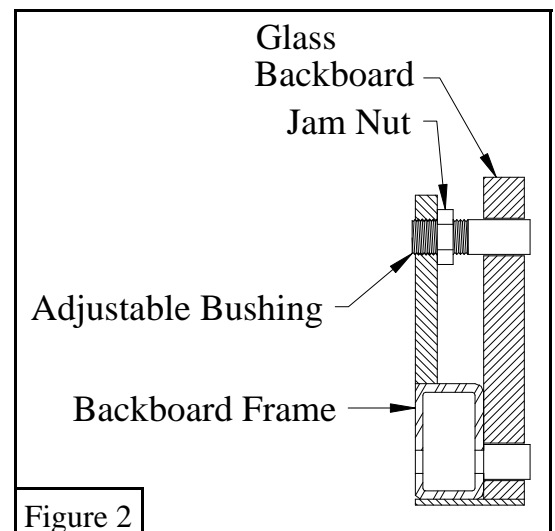

Figure 2
2. Loosen the Jam Nut. See Figure 2.
3. Turn the Adjustable Bushing in or out depending on whether the rim needs to be raised or lowered. See Figure 2.
6. When satisfied the rim is level relock Jam Nuts. See Figure 2.